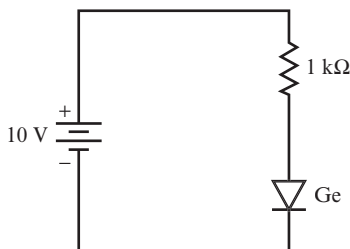

FIGURE 2.19
- A.** Examine the circuit in Figure 2.19. Is it safe to assume that the diode is perfect?